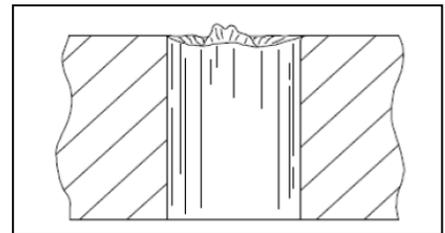

Figure 6 Hinged Burr
- d. **Hinged Burr**: (see Figure 6):